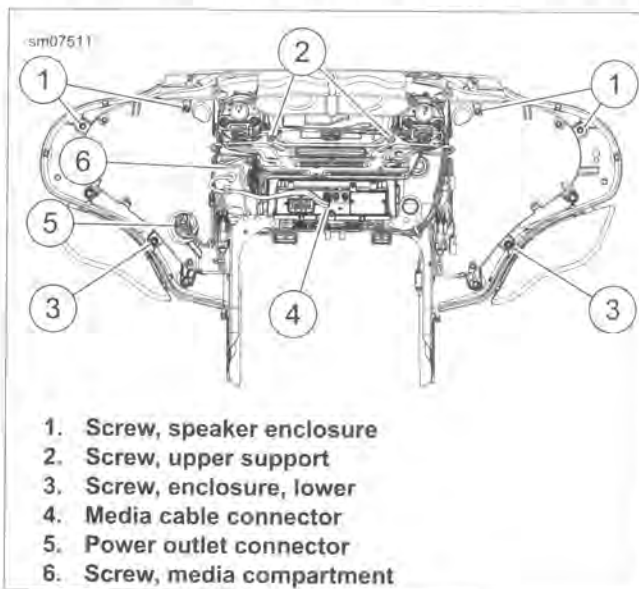

Figure 2-142. Inner Fairing
- See Figure 2-142. Remove two upper support screws (2).
- Remove four enclosure screws (1). Do not remove screws (3) at this time.
11. See Figure 2-142. Install two screws (2). Tighten to 10-20 **in-lbs** (1.1-2.2 Nm).
12. Install four screws (1). Tighten screws (1, 3) to 48-60 **in-lbs** (5.4-6.8 Nm).